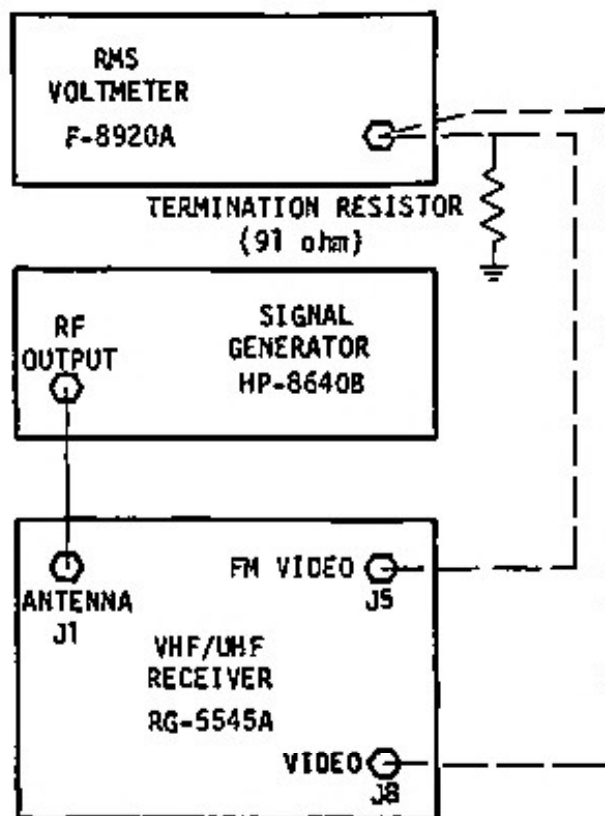

Figure 5-4. Video Output Test
1. Connect signal generator and RMS voltmeter as shown in Figure 5-4 with RMS voltmeter connected to FM VIDEO connector J5.